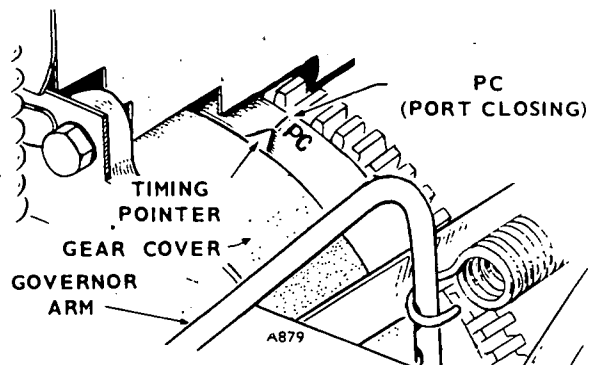

FIGURE 23. PORT CLOSING
5. Check the position of the port closing mark in reference to the timing pointer. If the button thickness is correct, the pointer will coincide with the port closing mark. See Figure 23. If the timing pointer is before port closing (early timing) a thinner button is needed. If the timing pointer is between port closing and top center (late timing) a thicker button is needed. To determine the correct button, measure the distance between the port closing mark and the timing pointer. For each .1" difference, one button either larger or smaller, depending on whether timing is early or late, is required. Refer to Table 2. A distance of .1" on the flywheel represents .003" button thickness.